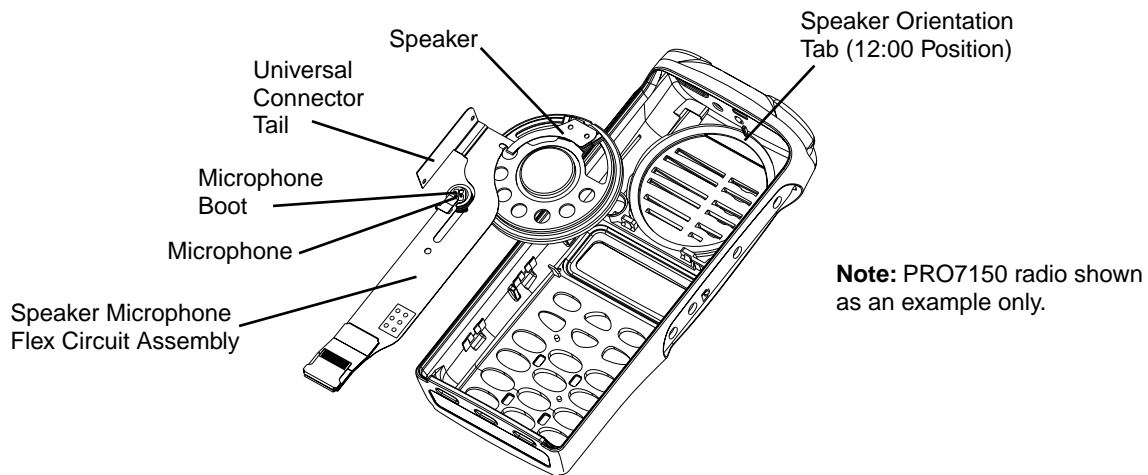

Figure 3-8. Speaker-Microphone Removal
4. Align the notch in the speaker at the twelve o'clock position with the tab on the front cover as shown in Figure 3-8.